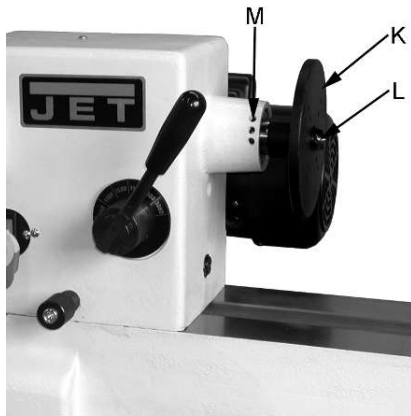

Fig 18
Thread indexing pin into the indexing hole (M, Fig 18).
The faceplate (K, Fig 18) is used for turning bowls. There are a number of holes (L) for mounting the workpiece. Thread the faceplate onto the spindle in a clockwise direction, and tighten two setscrews.